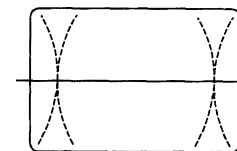

fig. 2.4A
- Watching the second vertical line in from both sides of the screen (figure 2.4A), make any upper and lower distortion symmetrical using buttons “4” or “6” on the remote control.